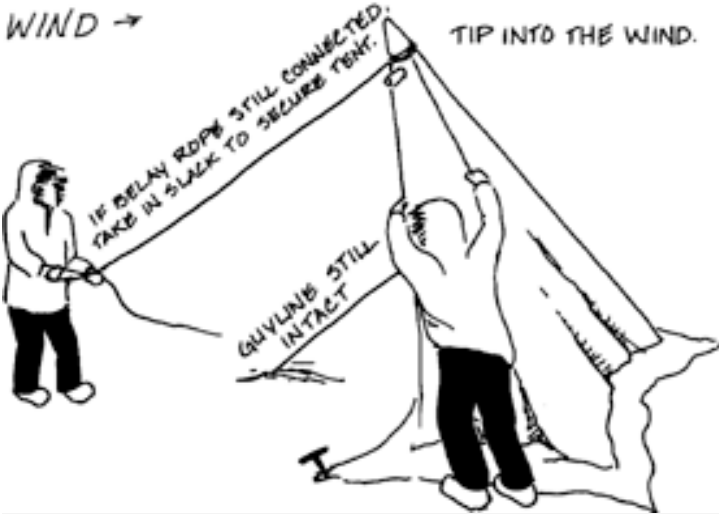

Figure 12-5
3. Tip the tent into the wind, collapsing the leeward poles. If the belay rope is still connected to the apex, take in slack to secure the tent. Lay the tent flat on the ground apex into the wind. Disconnect all guylines and neatly wind them up and lay them on the tent. (See figure 12-5).